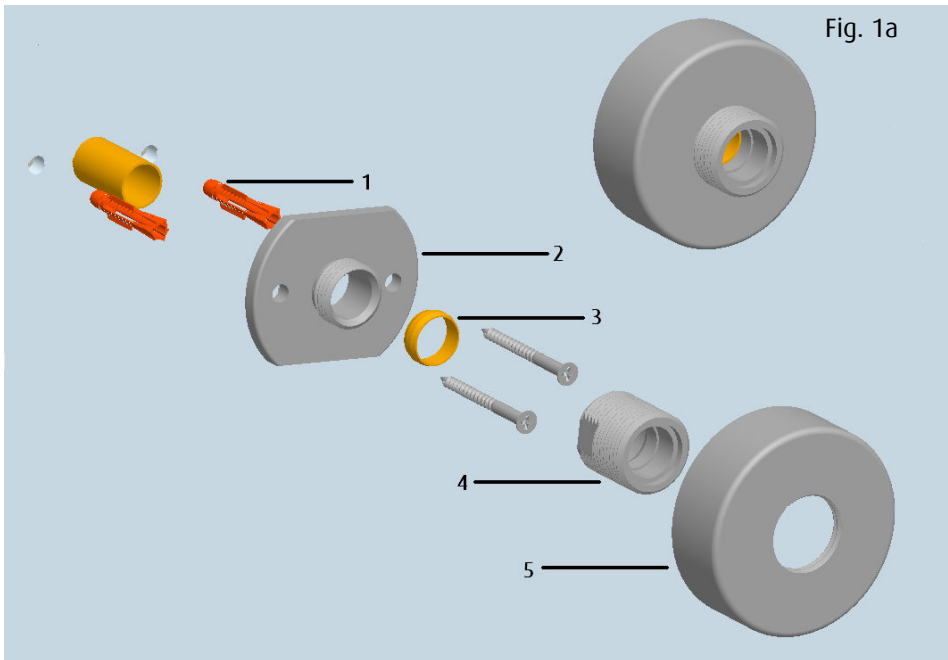

Fig. 1a
4.1 Pre-Installation (See Fig. 1a & 1b)
4.2.1 Fast Fit Fixing Kit (See Fig.1a)
To fit mixer body to the wall. Place the filter washers (6) into the connecting nuts (7) and tighten to the fixing bridge (4 on page 3, Fig. 1a) using the connecting nuts (7) which are secured to the mixer body.